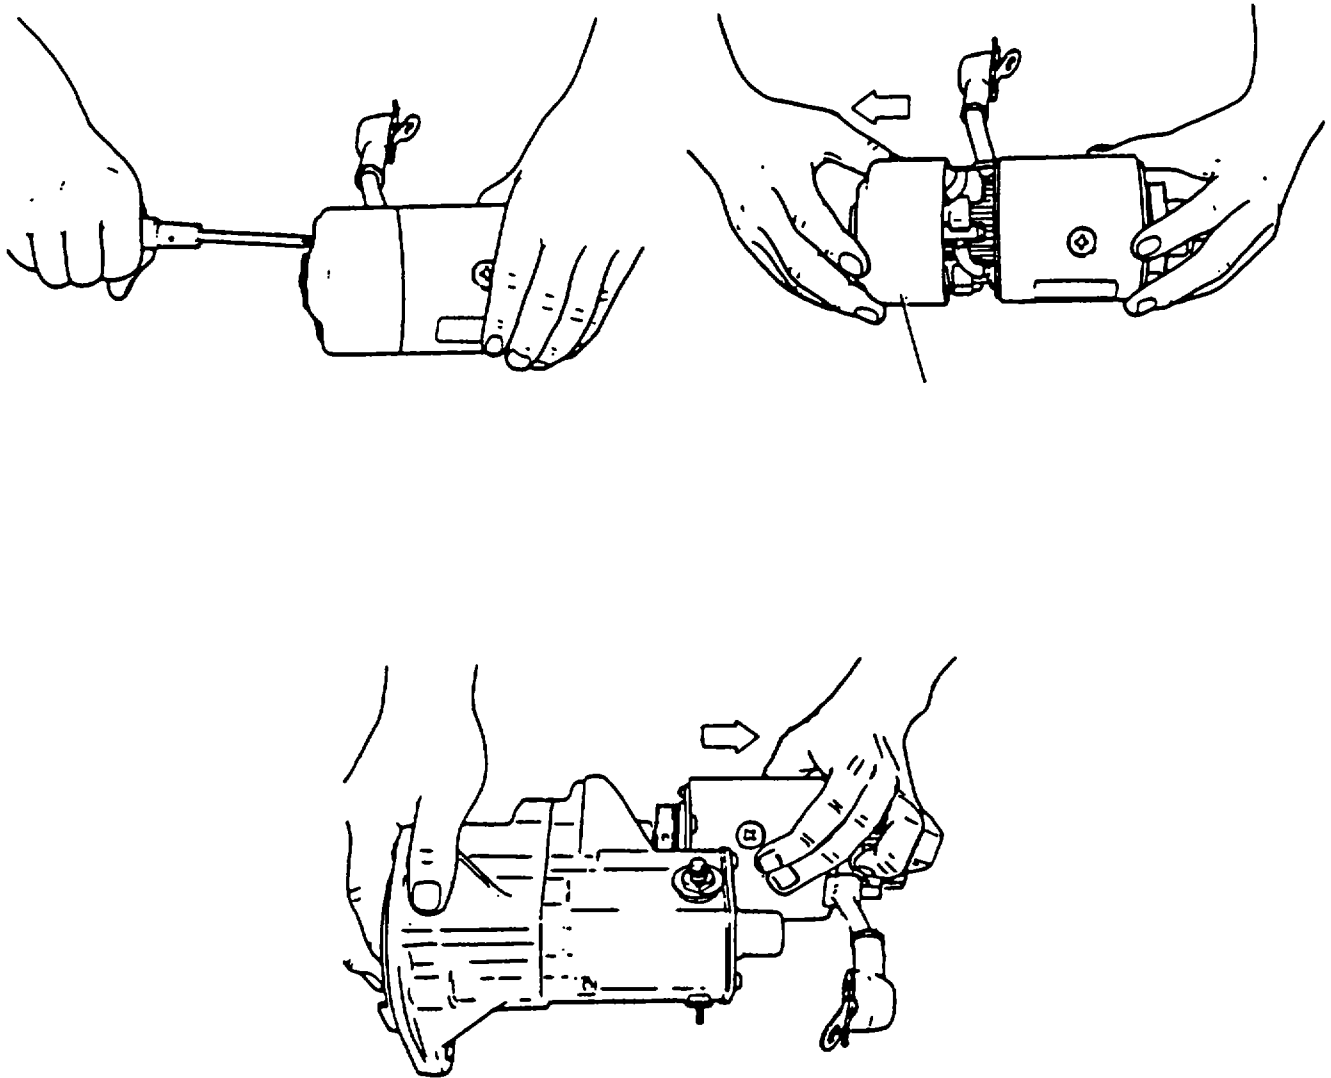

FIGURE 3-18. Removing Starter End Frame and Yoke Assembly (Typical)
- d. Remove two screws (11, FIGURE 3-15) and starter end frame (12). Remove yoke assembly (39), refer to FIGURE 3-18.